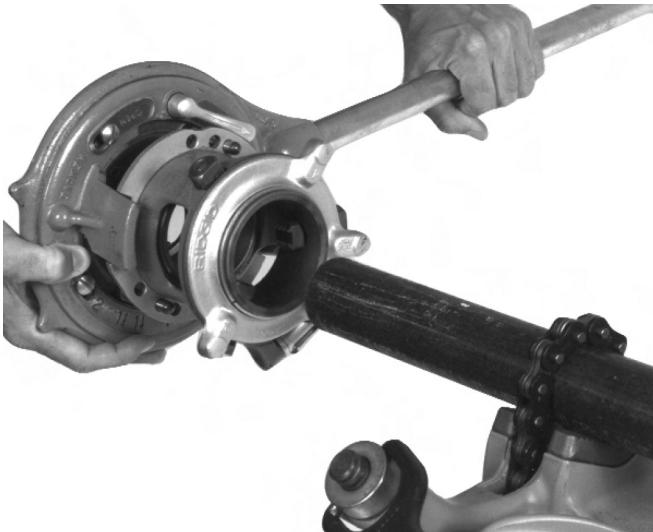

Figure 5 – Sliding Threader Onto Pipe
6. Turn release cam lever to the "closed" position. Slide threader on the pipe with the workholder end first (*Figure 5*). Center end of pipe in the throat of the dies.